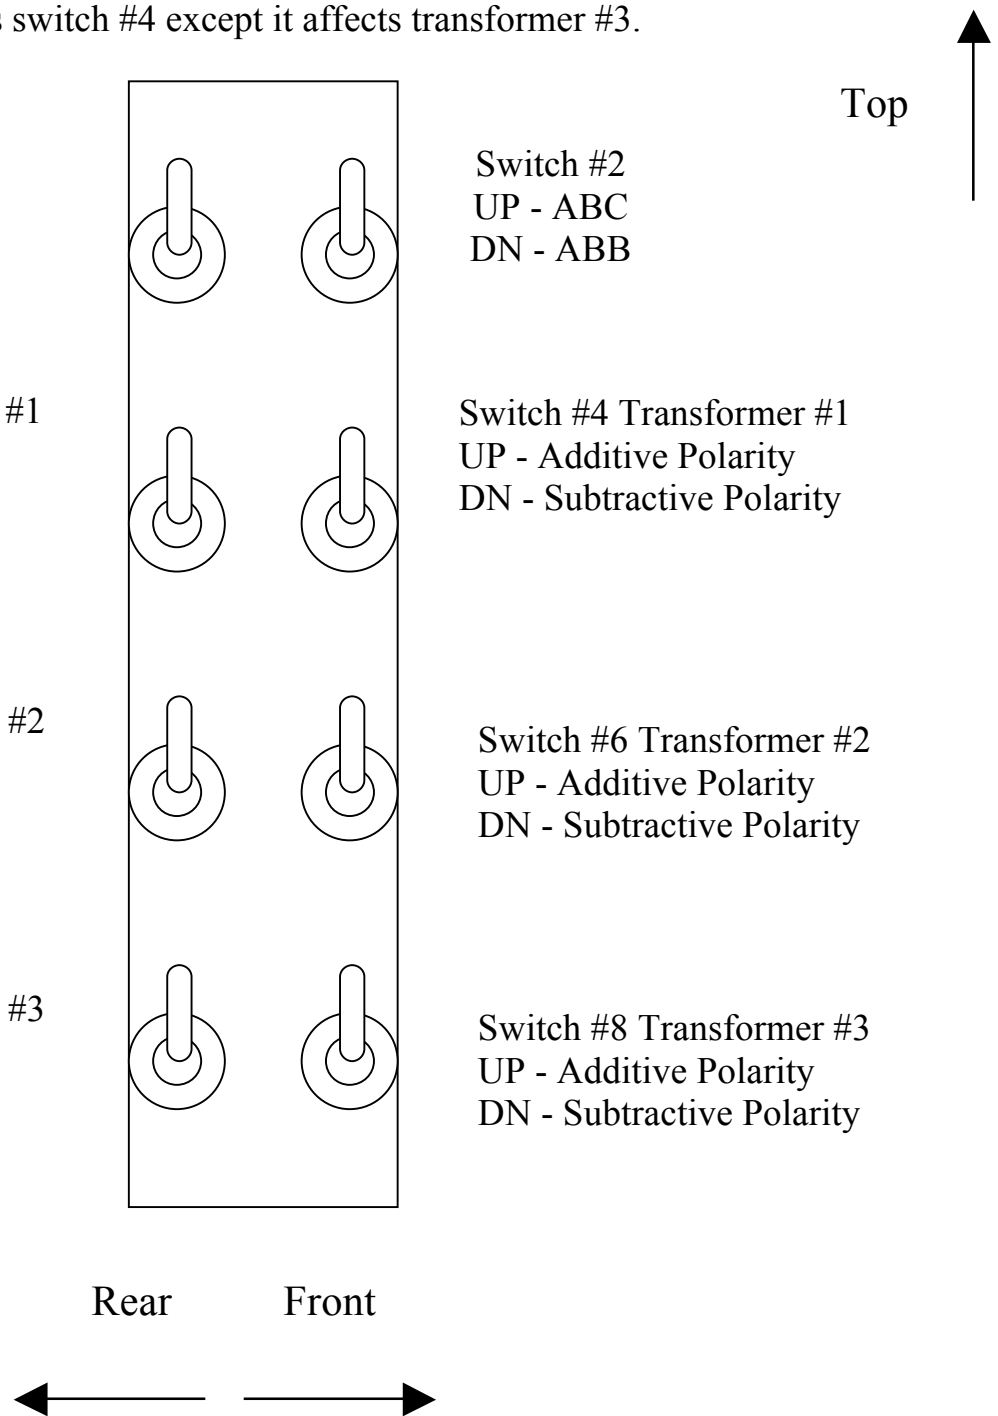

Figure 1
Eight (8) toggle switches are located in a recess in the left side of the Connection Module. The normal position of all these switches is UP, toward the top of the panel. The switches can be used to introduce problems at the time of installation or a problem arising after the installation has been in service. The function of the switches is not indicated on the module. Numbered from the top-left down to the bottom-right (see Figure 1 below), the functions of the switches are as follows: